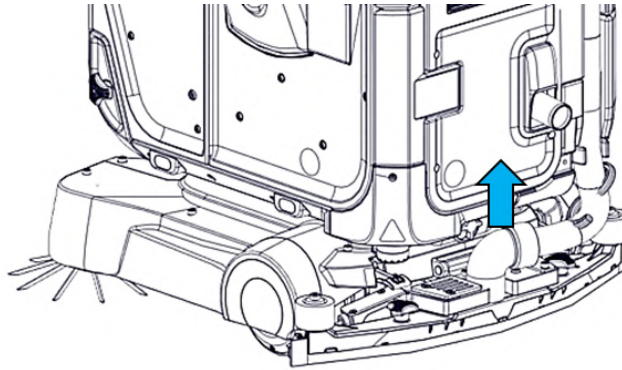
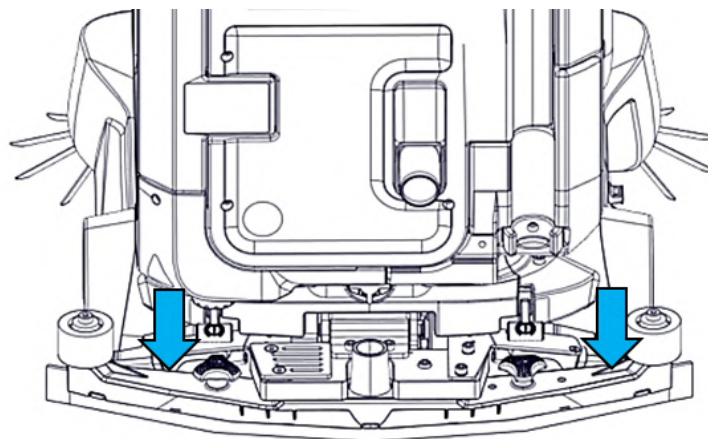

FIGURE 10-16
FIGURE 10-17
1. Remove the hose and push down on the squeegee assembly (**Fig. 10-16**) (**Fig. 10-17**).